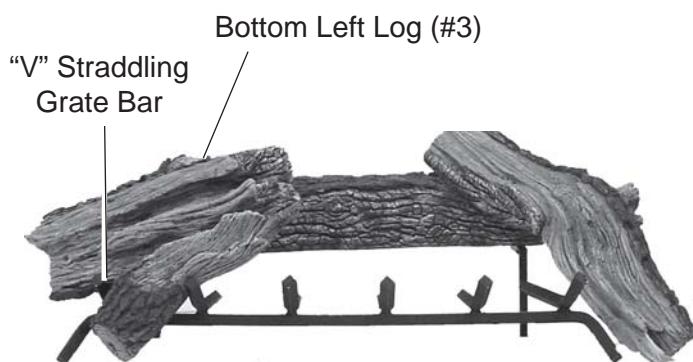

Figure 140 - Straddling “V” of Bottom Left Log (#3) on Grate Bar
4. Place Bottom Left Log #3 on grate. The “V” of the log should straddle the end grate bar. *See Figure 140.*